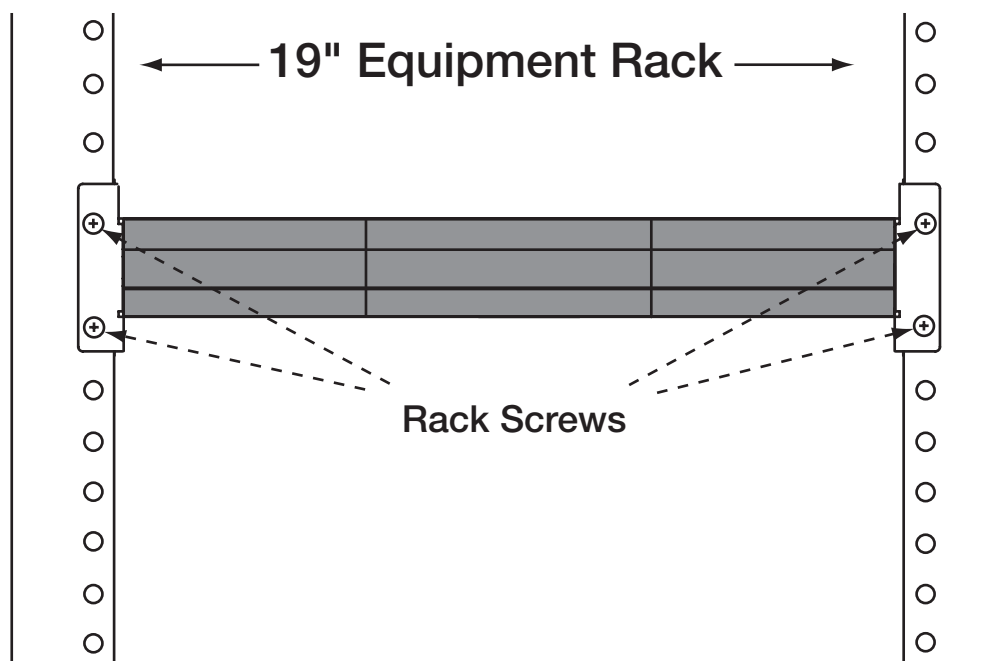

Figure B-3
3. Once the unit is securely mounted, install the entire assembly into a standard 19" equipment rack from the front using four rack screws (not included) as shown in *Figure B-3*.